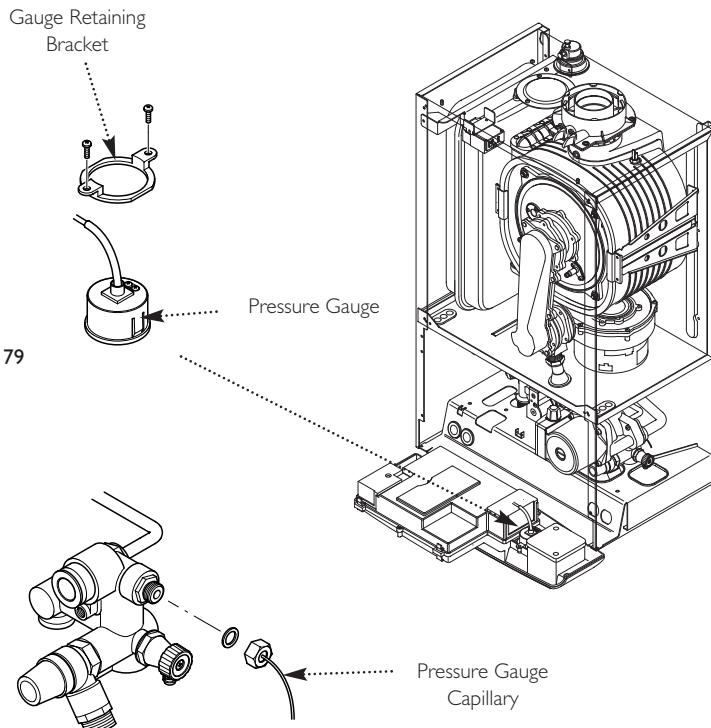

Fig. 79
14.16 Pressure Gauge (Figs. 79 & 80)